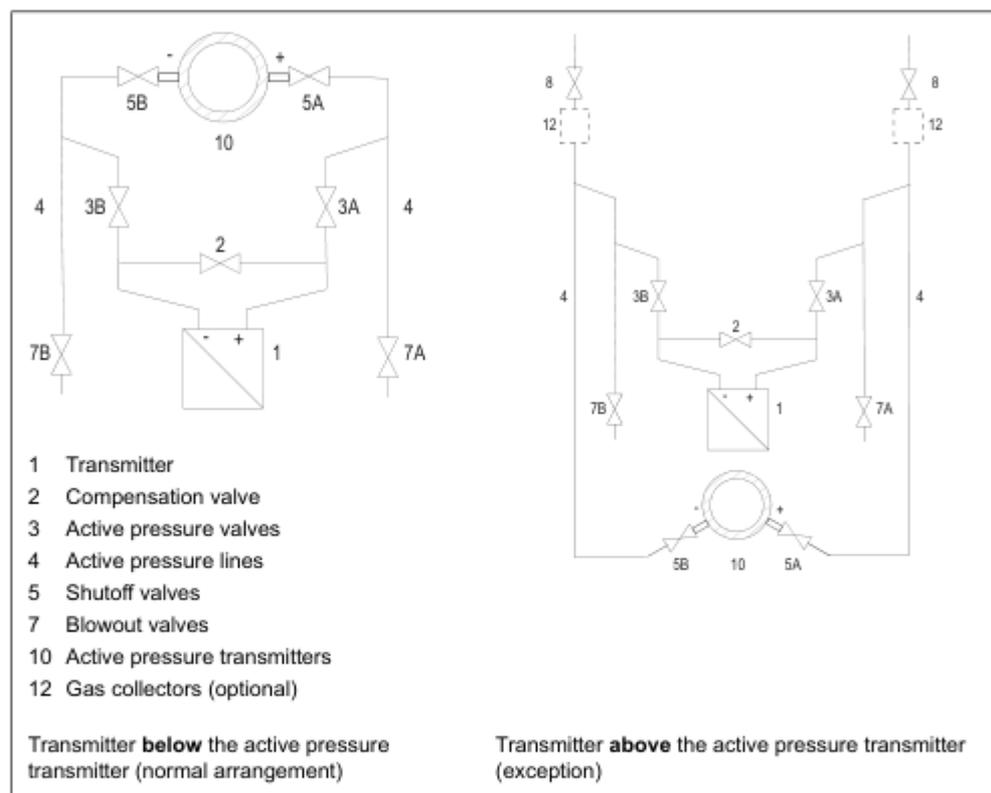

Figure 42 Measuring liquids
1. Open both shutoff valves (5, Figure 42, pg. 101) at the pressure taps
2. Open the compensation valve (2).
3. With the **transmitter below the active pressure transmitter** open both blowout valves (7) one after the other, with the **transmitter above the active pressure transmitter** open both vent valves (8) slightly until air-free liquid emerges.
4. Close both blowout valves (7) or vent valves (8).
5. Open the active pressure valve (3A) and the vent valve at the high pressure chamber of the transmitter (1) slightly, until air-free liquid emerges.
7. Open the vent valve at the low pressure chamber of the transmitter (1) slightly until air-free liquid emerges.
10. Close the vent valve at the low pressure chamber of the transmitter (1).